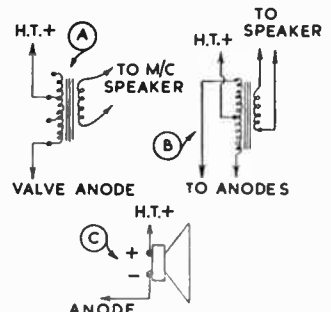

Fig. 4—High impedance speaker connections
The primary of the transformer should be suitable for the type of output valve. If it is not, volume and reproduction will not be at their best. If the primary has several tappings, as at (A) in Fig. 4, it is merely necessary to select those tappings which give best results.
With push-pull circuits there are two output valves. Here, a centre-tapped transformer of appropriate type is wired as in (B), Fig. 4. The centre-tapping must go to the H.T. positive, with equal ratios each side to the valve anodes.